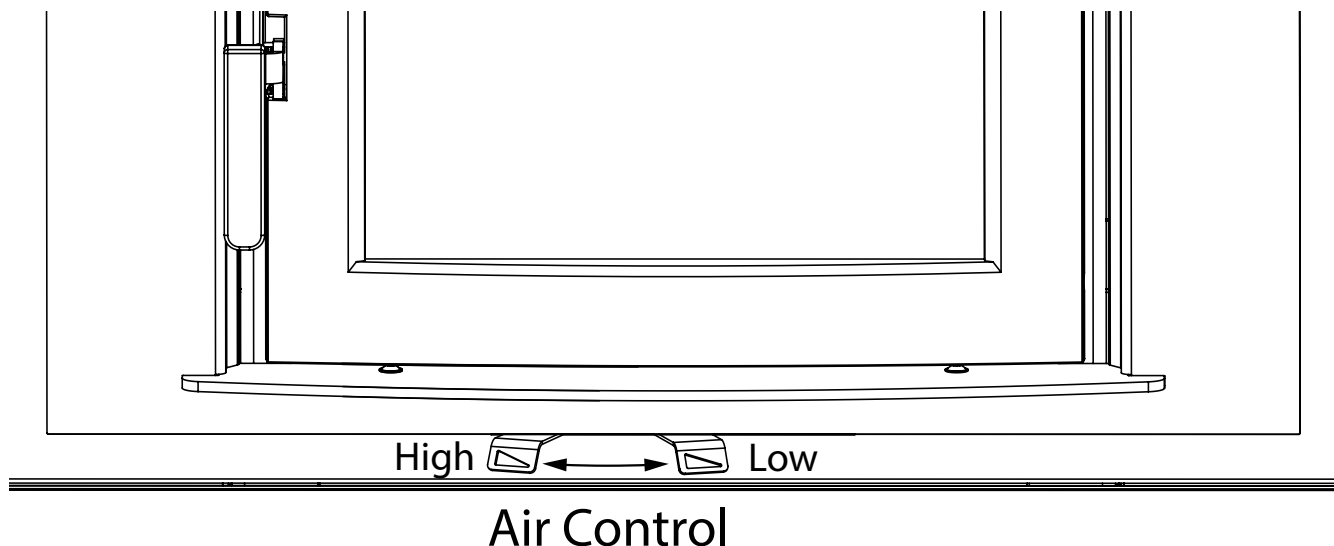

Figure 1: FP16 LE Air Control.
1. Adjust the Air Control, located under the Ash Shelf, all the way to the left to the "High" position. (Figure 1).
1. Set the heat output to a desired setting by moving the Air Control(Figure 1) between the High and Low stops. If smoke pours down across the glass (waterfall effect) this indicates you have shut the control down before the fire was fully established after loading or you are using too low a setting to quickly. The wide control range makes finding the desired setting for your application easy. Every home's heating needs vary due to insulation, drafts, climate, etc.) the proper setting can only be found by trial and error and should be noted for future burns.
2. To refuel, adjust the Air Control(Figure 1) to the "High" position (all the way to the left), and give the fire time to brighten. Open the door slowly, this will prevent backpuffing or the flame rolling out of the door opening.